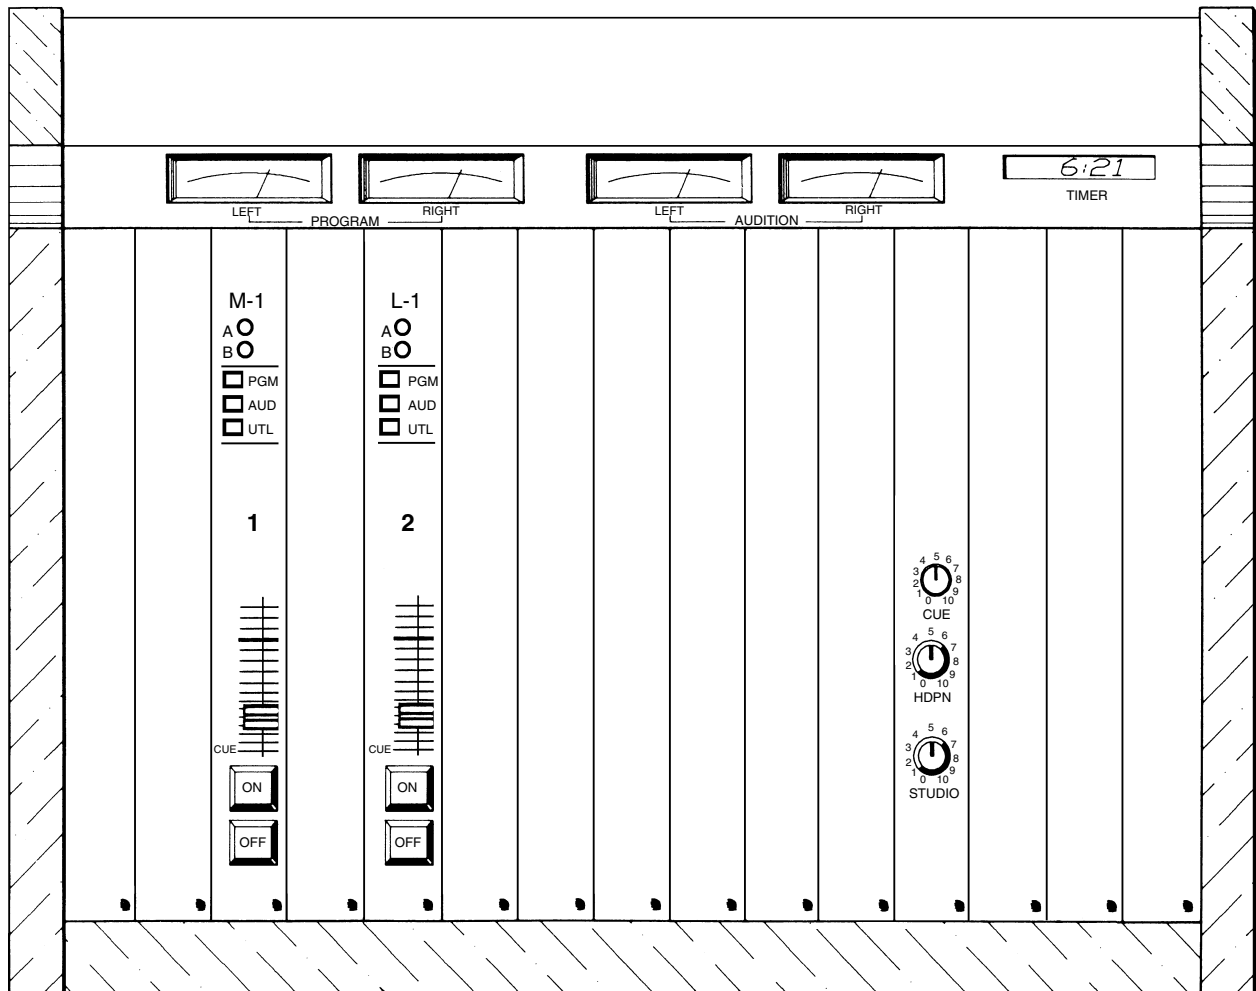

FIGURE 3.6 A simple two-channel audio console.
associated with one or two sound sources (glance ahead to Figure 3.9). On the board in Figure 3.6, note the individual input selectors, output selectors, volume controls, and on/off switches associated with each individual channel. The cue, headphone, and studio monitor gain controls are associated with both channels, as are the VU meters.
All control boards, whether digital or analog, operate in basically the same way. For the purpose of simplicity, let's consider a small audio console with just two channels; Figure 3.6 shows such a board. Each channel (M-1 and L-1) has two inputs (labeled A and B) so that, for example, a microphone could be assigned to channel M-1 (position A), while channel L-1 could have a CD player assigned to input A and an audio recorder assigned to input B. In general terms, a channel refers to the path an audio signal follows. On an audio console, a **channel** refers to a group of switches, faders, and knobs that are usually
The input **volume controls** shown in Figure 3.6 are called **sliders**, or **faders**. They are merely **variable resistors**. Although they are called volume controls, or **gain controls**, they don't really vary the amount of amplification of the
Another function found on most audio boards is called **cue**, which allows you to preview an input sound source. Both rotary pots and fader controls go into a cue position, which is below the off position for that control. If you turn the rotary pot all the way counterclockwise to off, it will reach a detent, or stop. If you keep turning the knob (with a little extra pressure) it will click into the cue position. Faders are brought down, or south, until they click into cue (see Figure 3.6 again). Some faders can be put into cue with a separate pushbutton (see Figure 3.9) that, when depressed, puts that channel into cue regardless of where the fader control is set. Cue position is usually marked on the face of the audio console.
Our example audio board (review Figure 3.6) has a set of VU meters that indicates the left and right volume of the program sound going out and another set of meters that shows the audition output. Most boards have multiple VU meters. For example, they might have separate meters for each individual channel. Boards that have multiple outputs also have multiple meters. For example, a board that is stereo, like our example board, will have one meter for the right channel and one for the left.
The most common arrangement for the **output selectors** on a radio production board is a bank of three buttons for **program**, **audition**, and **auxiliary** outputs. The example board in Figure 3.6 has this type of configuration except the auxiliary output is labeled UTL for utility. When no button is pushed in, the output is stopped at this point. When the program button is pushed (PGM), the signal normally goes to the transmitter if the board is in an on-air studio, or to an audio recorder if the console is in a production room. The program position would be the normal operating position when using an audio console.
The auxiliary (**aux**) or utility (**utl**) position is just like either the program or audition position and is another output for the audio board (see Figure 3.6). For instance, some studios are set up so that the aux position of one control board feeds another studio and becomes an input on the audio console in the other studio. Unlike most input selectors, which allow only one input to be selected at a time, output selectors usually allow more than one output to be active. If all output buttons were depressed, you could send the same audio signal to three different locations at the same time.
There is no output volume control on our example board in Figure 3.6 that can be adjusted by the operator. Some audio consoles include a **master fader** that controls the volume of the signal leaving the board. Even if an input sound source is selected, program output is selected, and fader volume is up, if the master fader is all the way down, no signal will go from the console. Many boards have more than one output gain control. Again, a stereo board requires two masters, one for the right channel and one for the left. If there are multiple volume controls, then there's usually a master gain control that overrides all the other output volume controls. In other words, if the master is down, the signal won't go anywhere, even though one or more of the output volume controls are up.
Other bells and whistles that frequently appear on audio boards include **remote start switches** (see Figures 3.6 and 3.9). These are usually located below each individual channel fader, and if the equipment wired into that channel (such as a CD player or audio recorder) has the right interface, it can be turned on, or started, by depressing the remote start. This makes it easier for the announcer to start another sound source while talking into the microphone without having to reach off to the side and possibly be pulled off microphone. For most consoles, these switches also turn that channel on and off. In other words, even if you have the fader for that channel turned up, no sound signal will go through the channel until it has been turned on. However, some consoles are set up so that they will automatically turn the channel on when the fader is moved upward.
4. In Figure 3.6, sound on channel L-1 would not get to program out to be broadcast or recorded unless what happened?